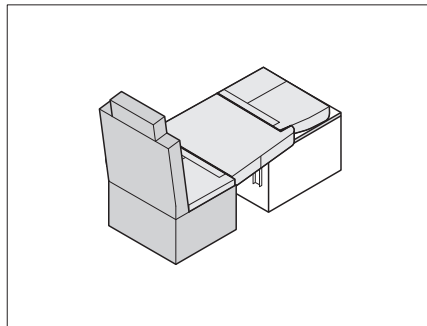

Fig. 217 Positioning the seat cushions
- Place the seat and additional cushion onto the lowered table as illustrated in Fig. 217.